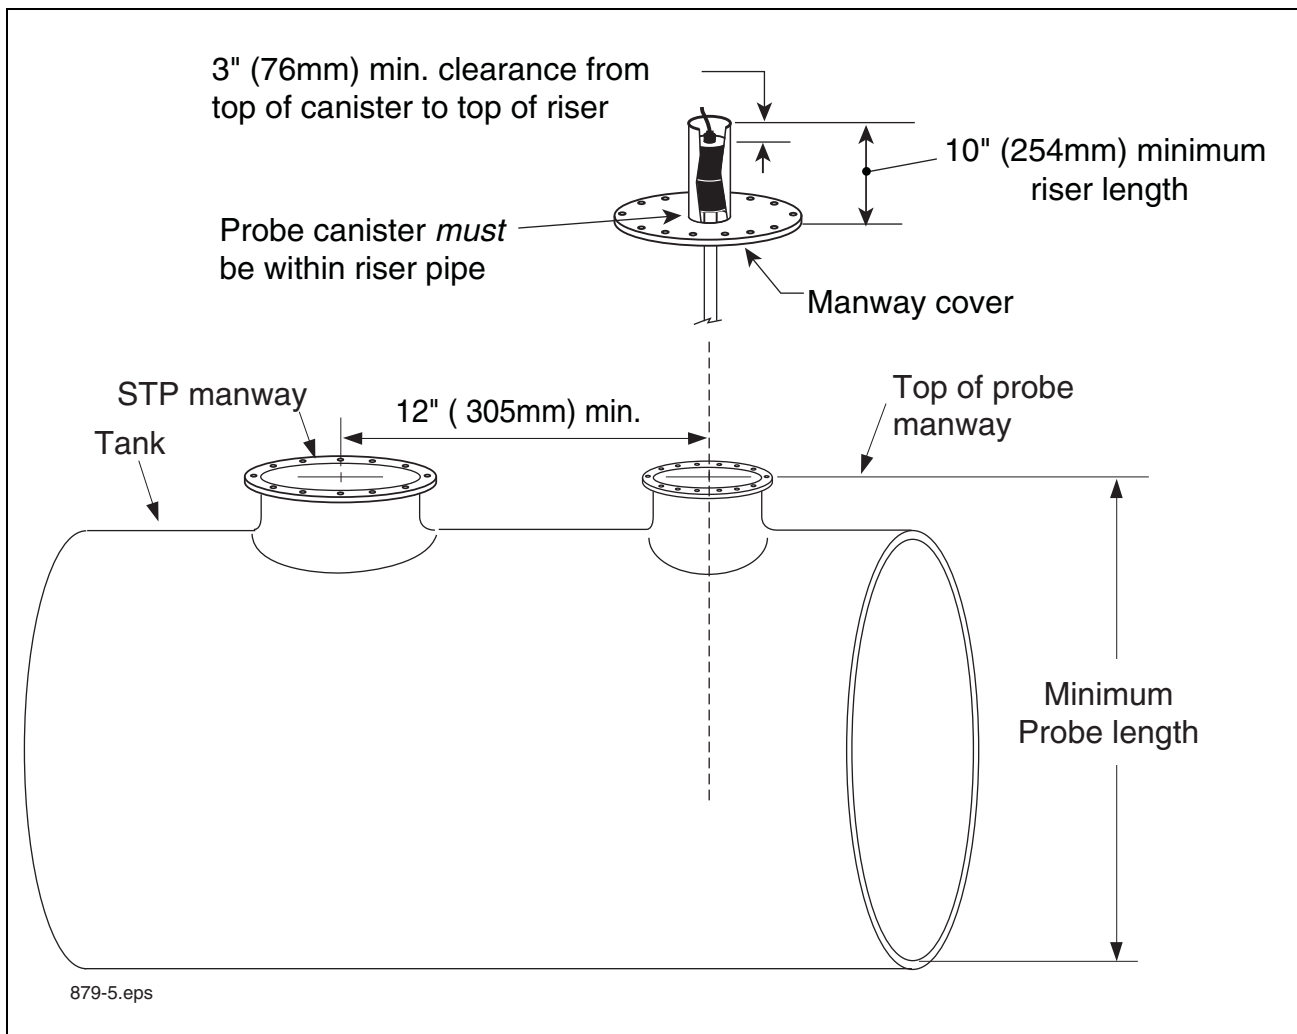

Figure 4. Determining the minimum mag probe length
1. Measure the distance from the bottom of the tank to the top of the probe manway - this is the minimum probe length (ref. Figure 4).